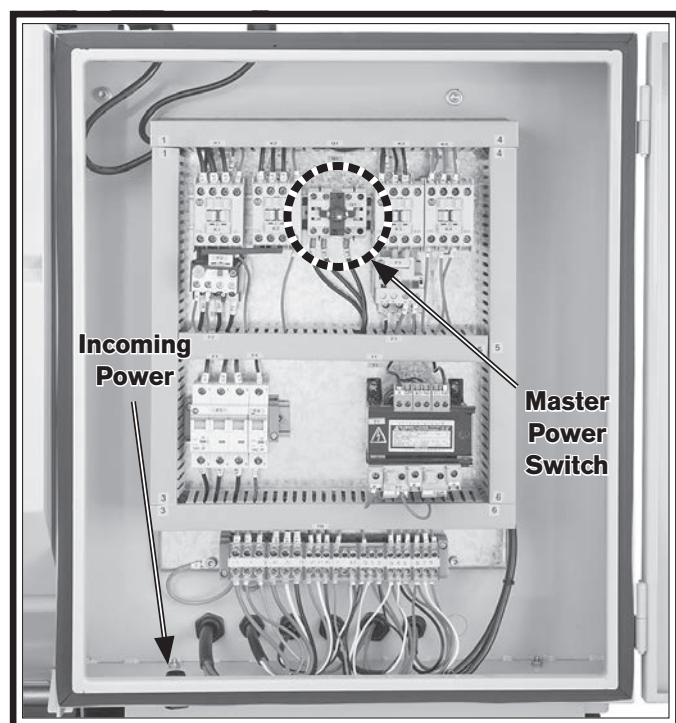

Figure 26. Location to connect power inside main electrical cabinet.
2. Refer to **Figure 26** to identify the master power switch and the hole at the bottom of the electrical cabinet for the incoming power.